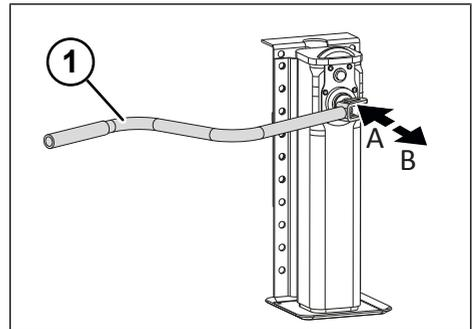

Fig. 5-3: Load speed and high speed of the rear brace
- ▶ Switch on high speed by pulling out the hand crank (see "Fig. 5-3: Load speed and high speed of the rear brace", pg. 25).
- ▶ Switch on load speed by pushing in the hand crank (see "Fig. 5-3: Load speed and high speed of the rear brace", pg. 25).
- ▶ Set to load speed by pushing in the hand crank (see "Fig. 5-3: Load speed and high speed of the rear brace", pg. 25).
- ▶ Set to high speed by pulling out the hand crank (see "Fig. 5-3: Load speed and high speed of the rear brace", pg. 25).